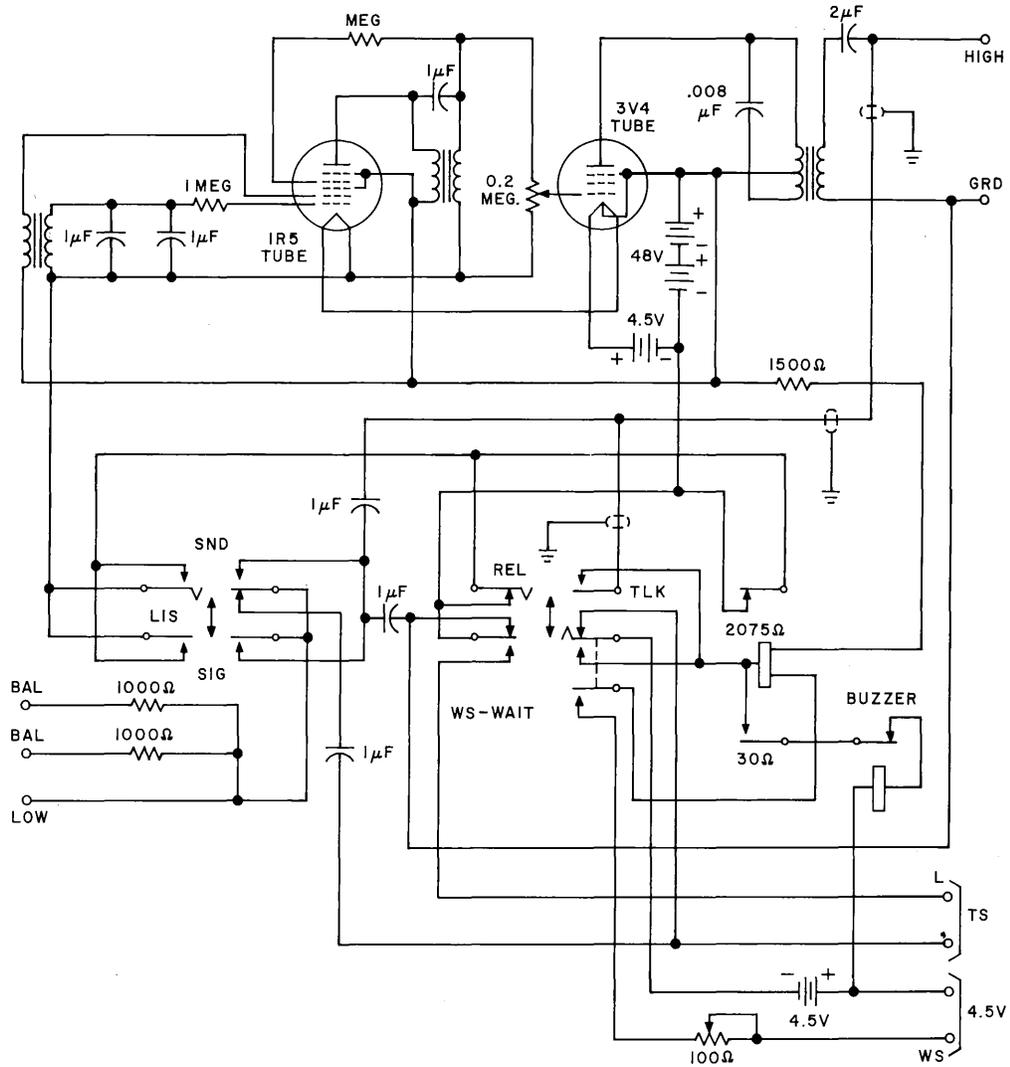

Fig. 4—Circuit Diagram of 76-Type Test Set
2.06 Figure 4 is a schematic circuit diagram of the 76-type test set.